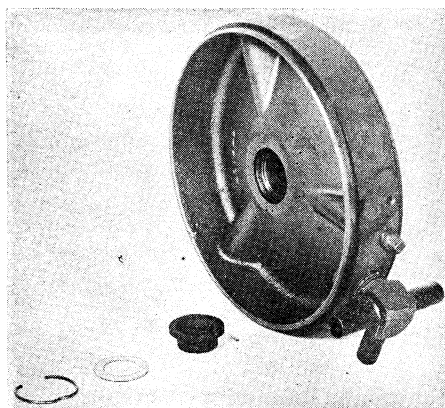

Fig. 11 Leather seal removed from center plate
13. Remove piston rod leather seal from center plate, Fig. 11, by taking out snap ring and washer.
12. Install a new piston rod leather seal in the center plate after soaking the seal in vacuum cylinder oil, Fig. 11. Be sure the seal is seated properly to prevent vacuum leaks.